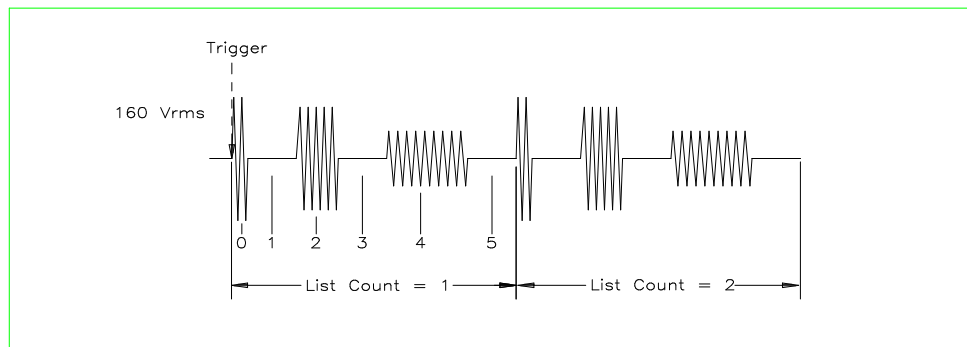

Figure 4-44: List Transients
13. Move the cursor to the END DELAY field and enter 0.067 for a interval delay of 67 ms. Notice that we effectively combined steps 0 and 1 from Figure 4-44 into a single list event.
21. Move the cursor to the START field and press the ENTER key. The transient program you just created will execute two times. If you have an oscilloscope connected to the output, you may be able to see the output voltage change per Figure 4-44.